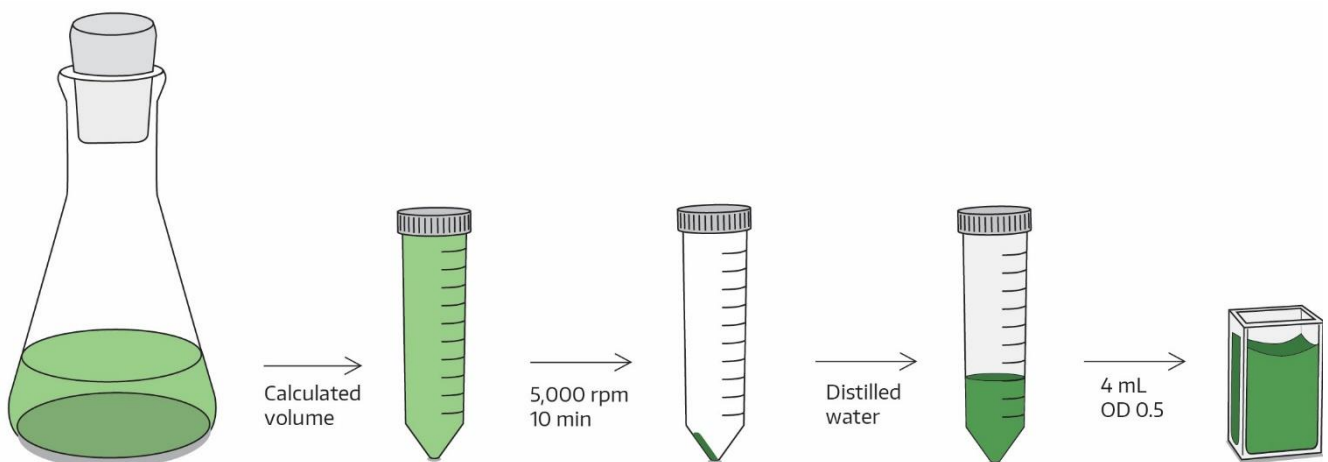

Fig. 13 Preparation of a liquid sample.
1. Prepare the fresh sample. At first, measure the  $\text{OD}_{680}$  of your culture. Calculate the volume to collect into a clean Falcon tube to reach theoretic  $\text{OD}_{680}$  of 0.5 in the at least 4-ml final sample after dissolving the centrifuged pellet in the distilled water. Then move the calculated volume of your culture in a clean Falcon tube and centrifuge the sample (<5,000 rpm, 10 min). Carefully remove the supernatant. Dissolve the centrifugation pellet in required volume of distilled water just before measurement. Mix the sample gently and move 4 ml of the sample into the 6-ml cuvette for the measurement (Fig. 13).